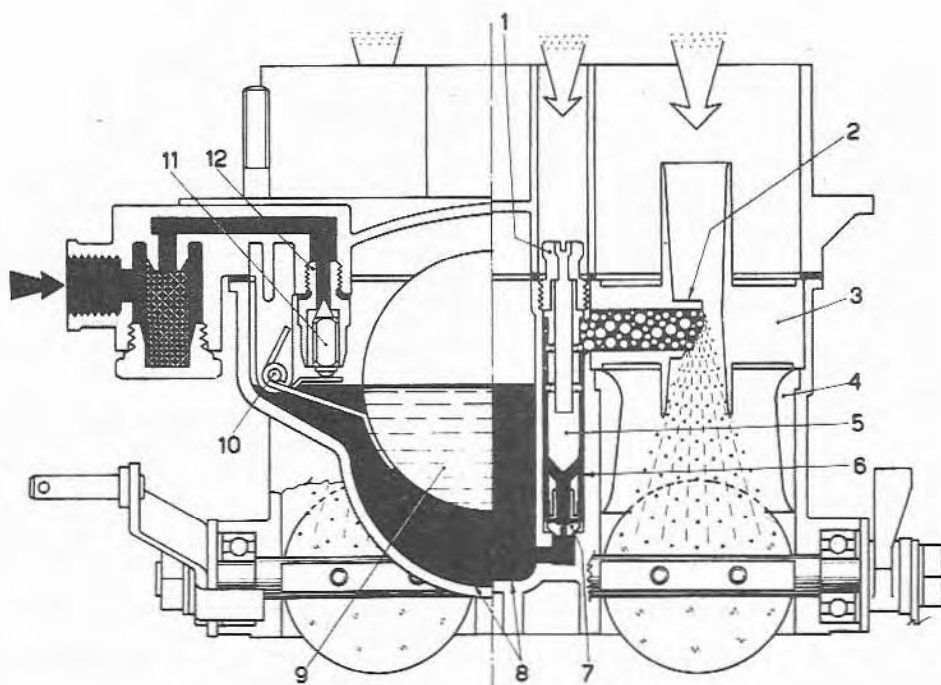

Fig. 13.3 Normal phase (Sec 3)
Refer to Fig. 13.3 and note that under full throttle and high speed cruise conditions, fuel is drawn from the float chamber (8), through the main jets (7) to the emulsion tubes (6). The fuel becomes emulsified with air drawn through the air corrector jets (1) and is then drawn through the nozzles (2), auxiliary venturis (3) and chokes (4) into the engine.